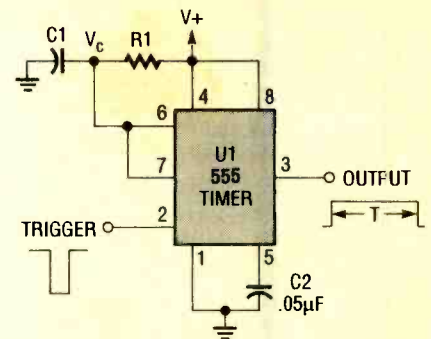

Fig. 6. In this monostable circuit a negative-going trigger pulse causes the output to remain high for a time determined by  $R_1$  and  $C_1$ .
**555 Applications.** The 555 timer IC is one of the most widely used integrated circuits today. It is well behaved, and its circuits are easy to design. Figure 6